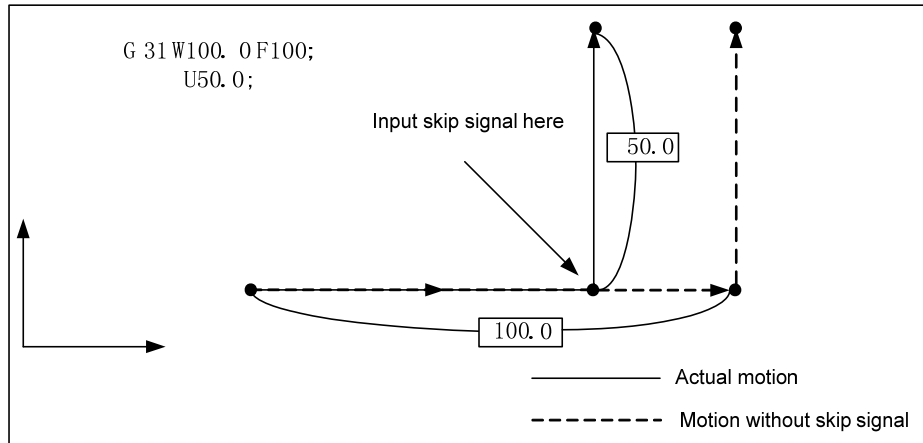

Fig.2-14
1. The next block of G31 is the incremental coordinate programming, which is shown in Fig. 2-14.